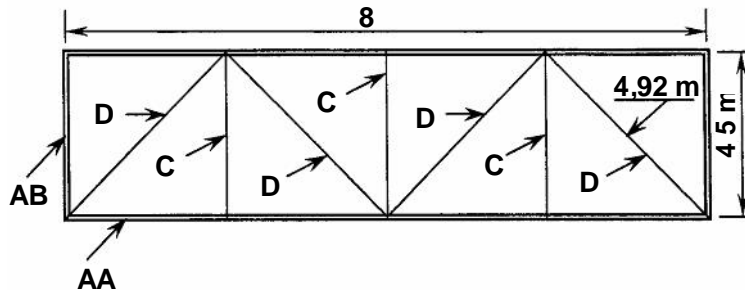

Figure 4
5.1 **Figure 4** shows a line diagram of a steel framework. The framework is welded and consists of single-angle profiles with gusset plates. The total time taken to manufacture one framework is 9 hours, at a tariff of R75,00 per hour while the overhead costs are calculated at 95% of the labour cost. The cost of the angle profiles 70 x 70 x 8 marked AA and AB with a mass of 5,8 kg/m length is R8,95 per kilogram, and the profiles of 60 x 60 x 5 marked D and C with a mass of 4,47 kg/m length is R7,80 per kilogram. An amount of R225,00 is allocated for welding material.